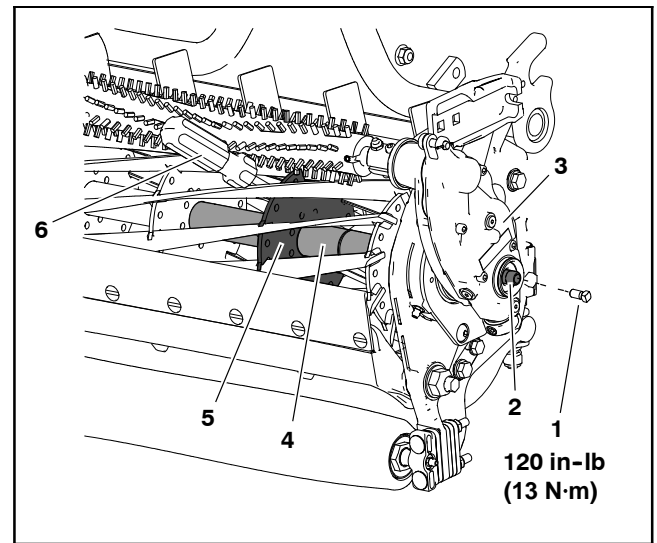

Figure 3
5. Install a 5/16–18 X 5/8 inch square head set screw (Toro p/n 1-803022) in the end of the drive shaft and tighten to 13 N·m (120 in-lb); refer to **Fig. 3**.